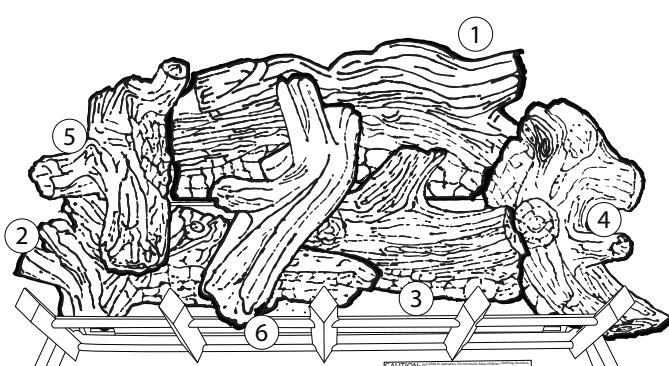

Figure 50
6. Place the top center log (#6) to the right of the pilot orifice allowing the log to rest on top of the front right log (#3) and the front left log (#2). (See Figure 50.)
- Place mid left log (#8) on mid rear log (#7) and front bottom log (#5) by placing notches on bottom of log onto locating blocks on log #7 and log #5. Figure 50